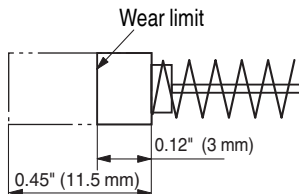

Fig. 13
4. Inspecting the carbon brushes (Fig. 13)